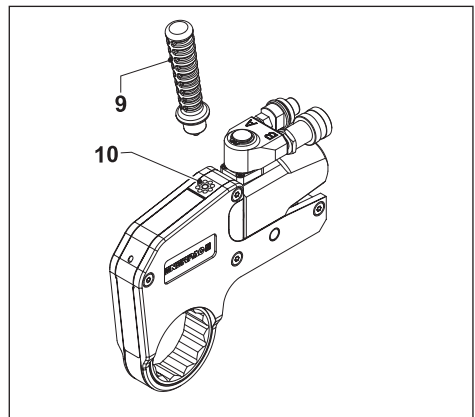

Fig. 3
3.2 To install the positioning handle (Fig. 3)
- Install the positioning handle (9) by fully screwing the threaded end into the tapped hole (10) on top of wrench.